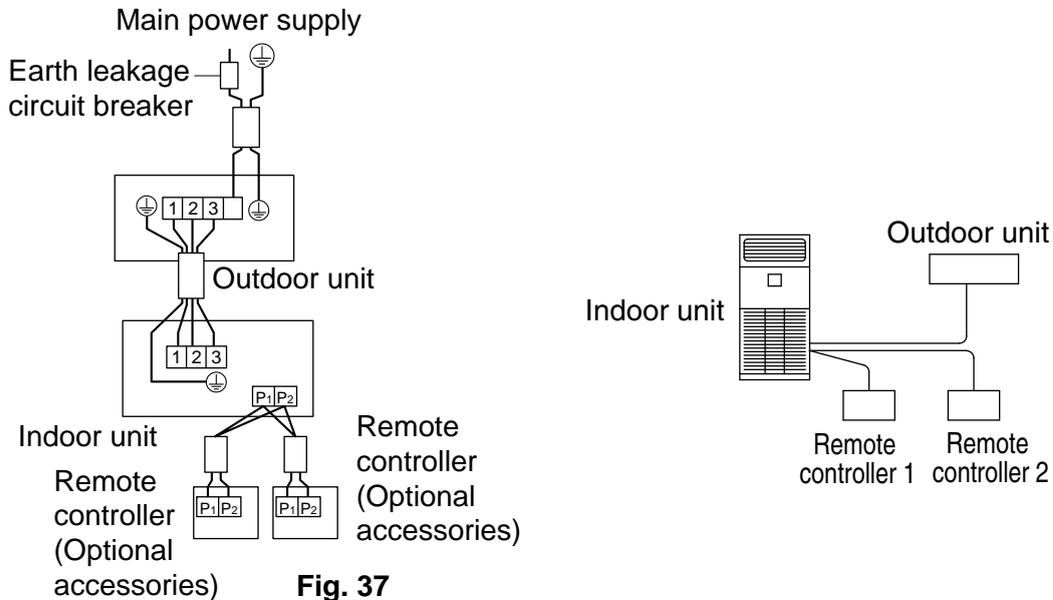

Fig. 37
- **2 remote controllers control:** 2 remote controllers control 1 indoor unit. (Refer to Fig. 37)
- (3) Remove the control box lid (Refer to “9. HOW TO CONNECT WIRINGS AND WIRING EXAMPLE”.)
- (4) Add wiring between the remote controller 2 (slave) and the terminal (P1, P2) of the terminal block (X1M) for the remote controller in the control box. (There is no polarity.) (Refer to Fig. 37 and Table 3)